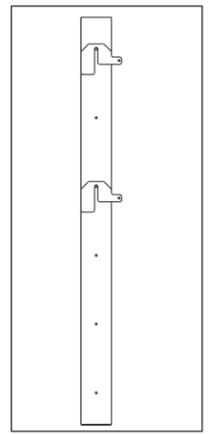

Figure 7: Shim Orientation
**Note:** Orient the shims on the end tubes so the tail/tag sticks out behind the display and out of sight when the display is fully installed. Refer to **Figure 7**.